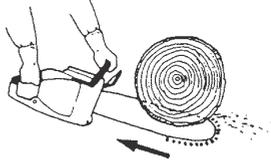

Fig. 22
- When cutting with the upper part of the chain the reactive force will push the chain saw towards you and away from the wood you are cutting. (Fig. 22)